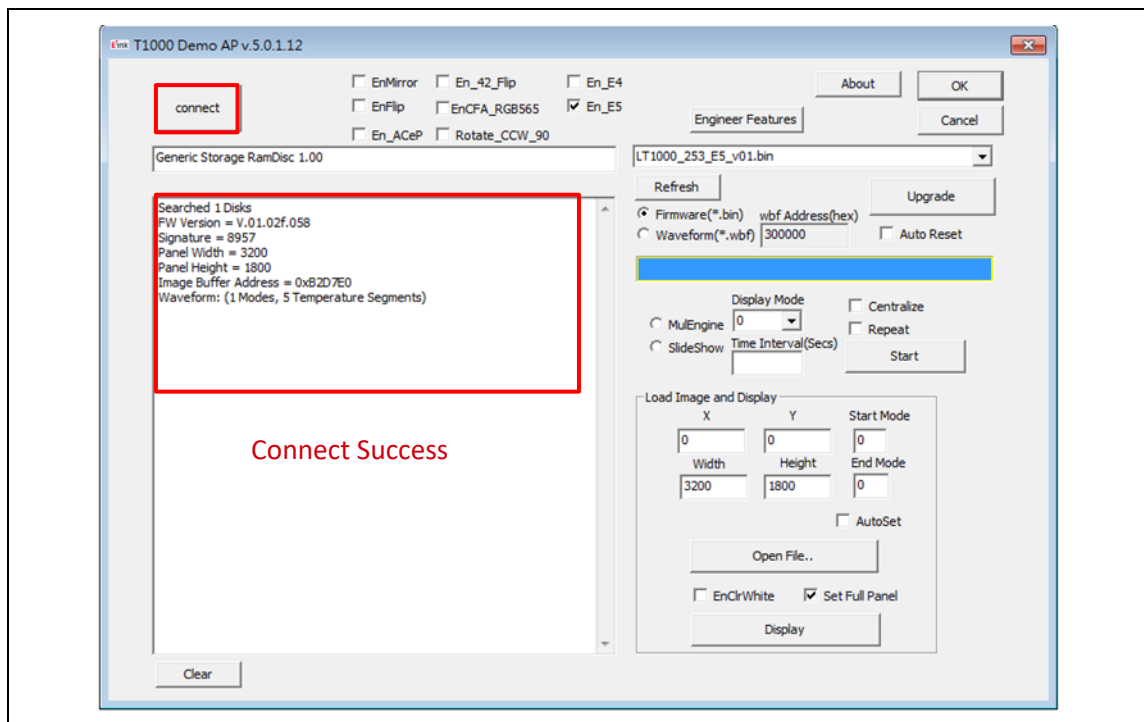

Figure 3.1
- Execute the "T1000\_Windows\_AP.exe" software and click the "Connect" button to ensure that the software is successfully connected to the physical drive. (refer to Figure 3.1)